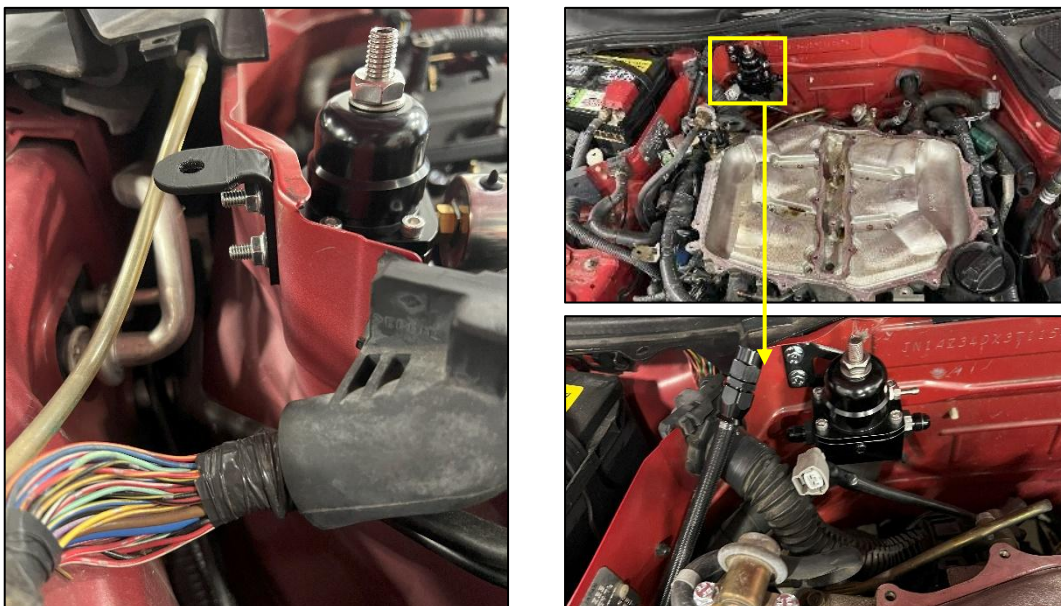

Figure 44
8. Install the FPR Bracket's studs/bolts into the (2) two holes on the firewall where the plastic clip was removed from in *Step 3*. Then place the other L-shaped bracket onto the studs and secure with the provided flange nuts. Some G35s will not need the rear Bracket if the Metal tab is there. *Figure 44.*